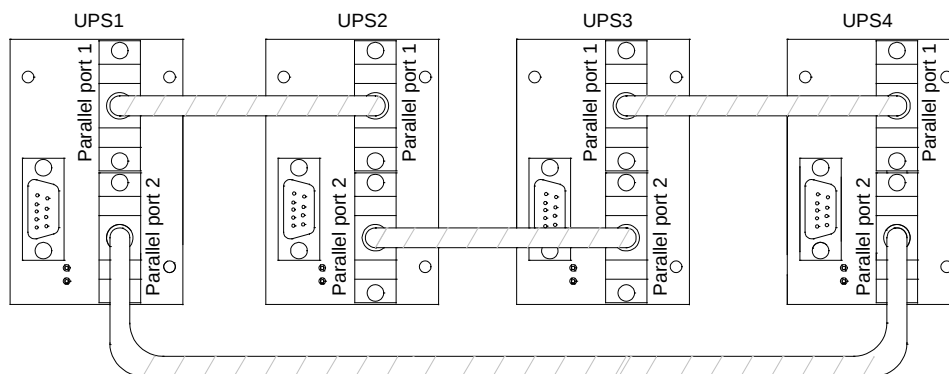

Figure 2-21 N + 1 parallel cable connection diagram
2. Follow the ring connection mode shown in Figure 2-21 to connect the parallel cables (Figure 2-21 shows four UPSs connecting the parallel cables). That is, the parallel cables of two UPSs connect each other.